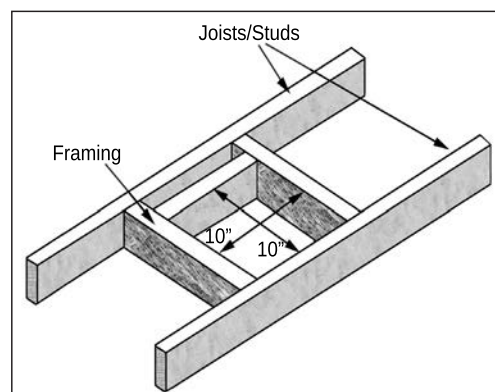

Figure 32. Vent Framing For Wall or Ceiling.
A 10" (254 mm) x 10" (254 mm) frame (see Figure 32) will assure the proper support and spacing for the vent pipe as it passes through the wall. Installations in Canada require that a wall thimble be used for passing through walls and ceilings. All sealing and vapour barriers must comply with local building codes.
Step 1: Using a T20 screwdriver remove the vent collar, base plate, cover plate and 4" exhaust spigot (28 screws total) as shown in Figure 32. The vent collar, base plate, and 4" exhaust spigot will no longer be used.